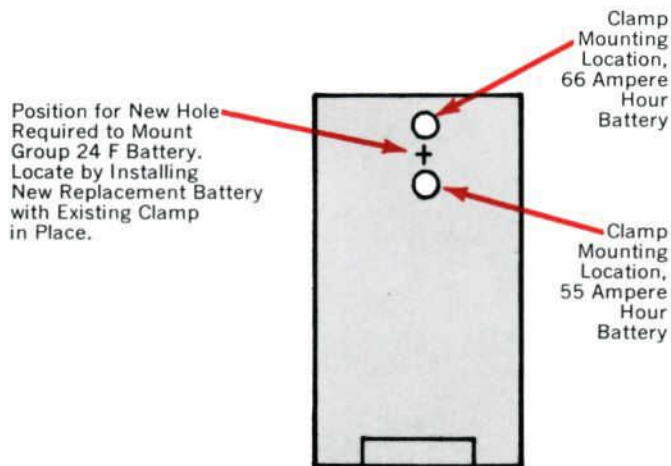

Figure 1—Plan View of Battery Tray
1. A new hole must be drilled into the battery tray approximately half-way between the two existing clamp nuts which are welded to the underside of the tray. See figure 1.